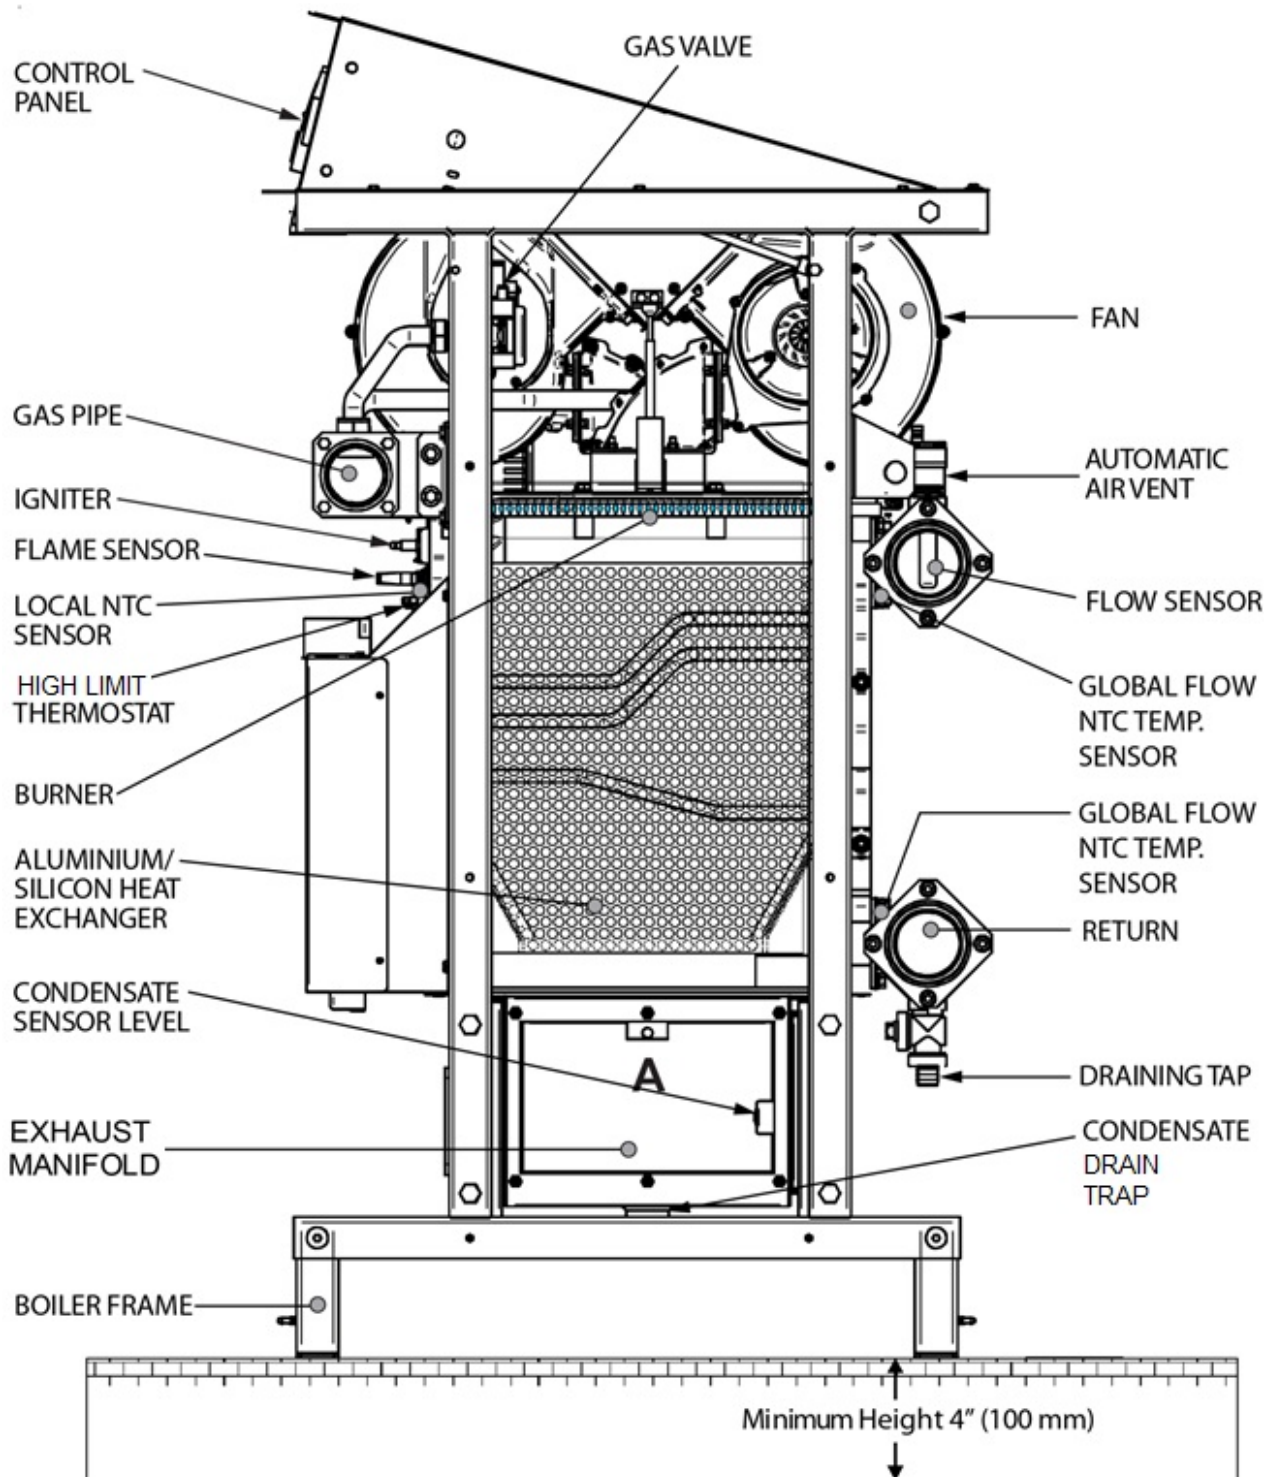
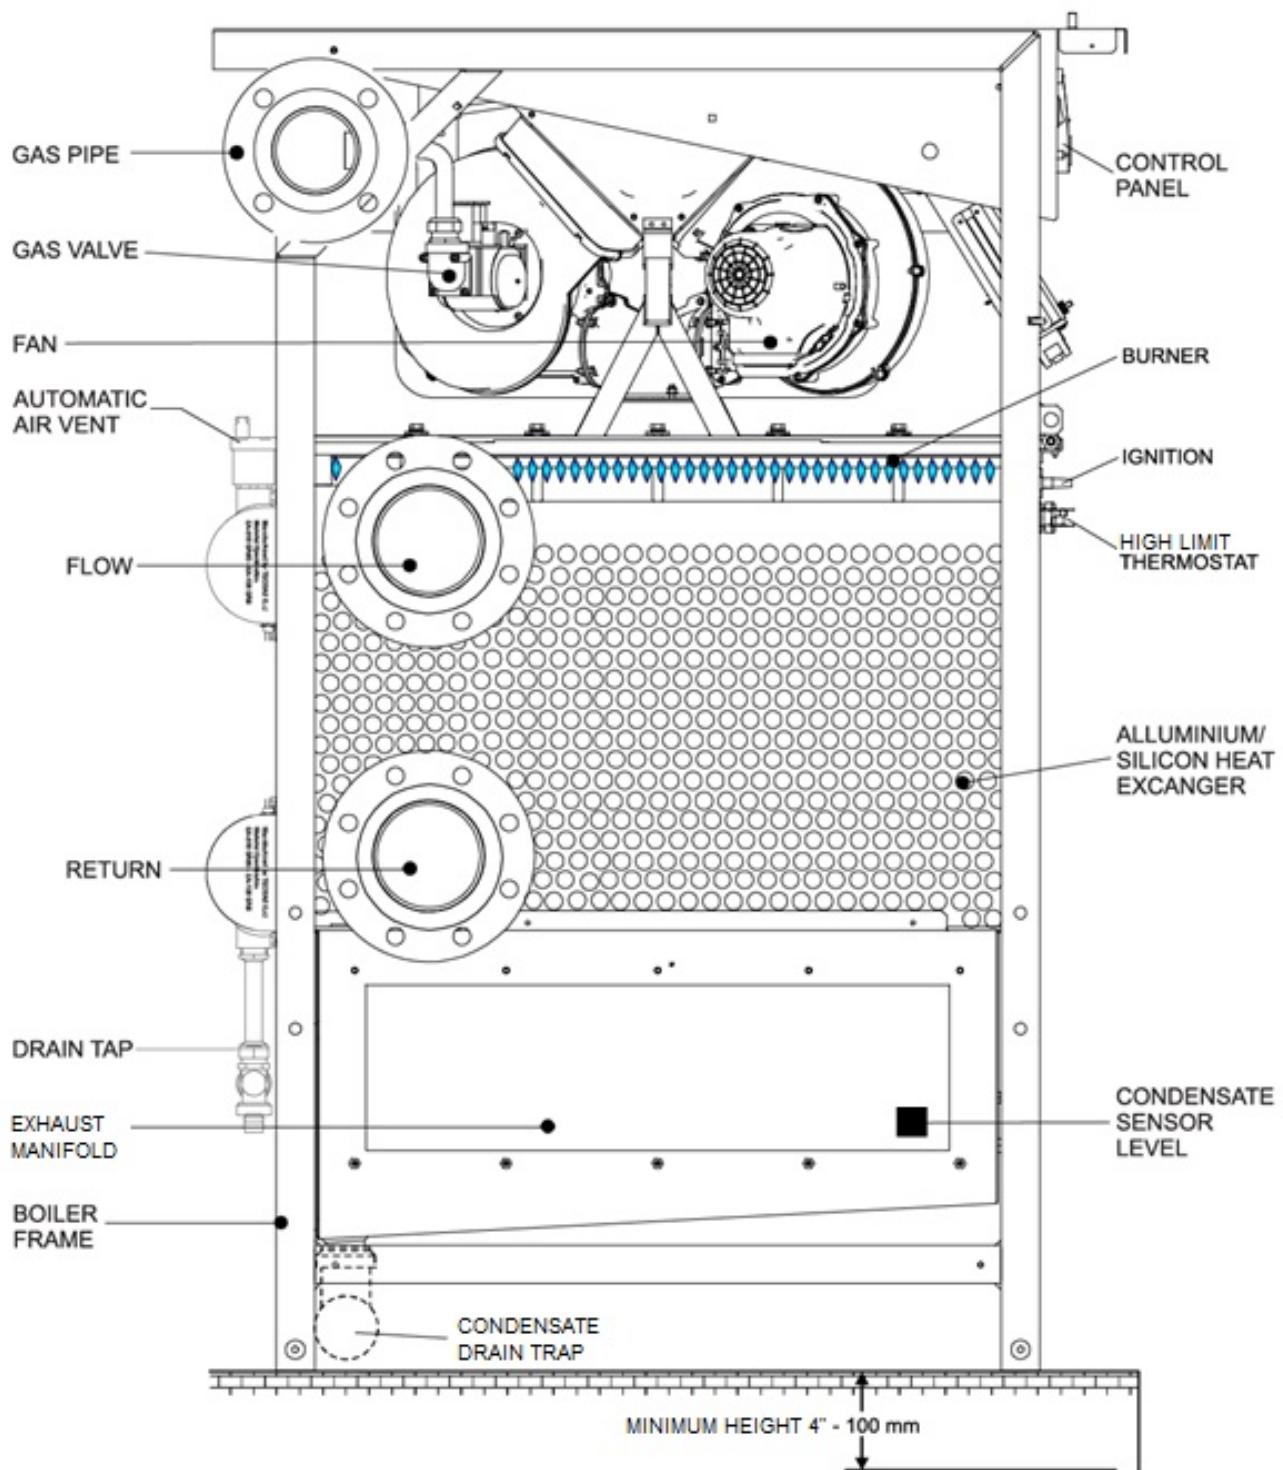

Figure 4a: MODULEX EXT Main Components (Right Side View)
Figure 4b: MODULEX EXT Main Components (Left Side View)
The ModulEx boiler comes standard with an automatic air vent inside the boiler (see Figure 4a and 4b). This vent is for the boiler only and not the entire heating system. An effective air vent for air removal for the entire heating system must be installed in the highest point of the system piping.
The boiler is equipped with its own drain (see Figures 4a and 4b for the drain position). **NEVER USE IT TO DRAIN THE SYSTEM**, since the system dirt could gather in the boiler and compromise its operation. The system itself shall be equipped with its own drain, whose size will depend on the system capacity. The application of a strainer on the return pipe to the boiler is required.
- The filling can also be done through the draining tap on the boiler return manifold (see drain siphon in Figure 4a and drain tap in Figure 4b).